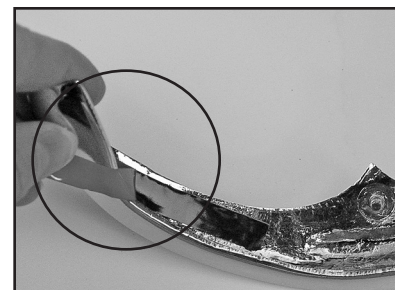

Figure 6
3. Remove liner from tape. Carefully slide tip on fender inserting mounting stud through drill hole. **Figure 6**